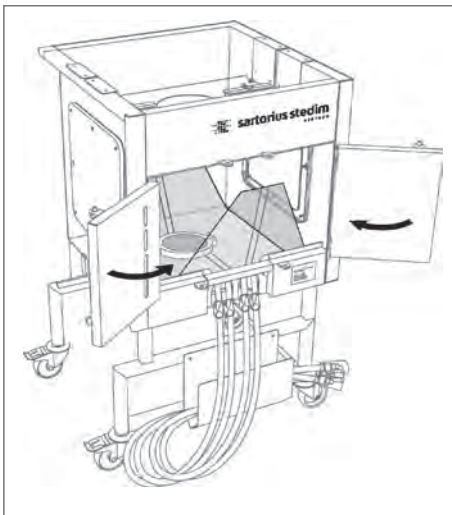

Figure 51
13. Close the hinged front door and secure the locking systems (see Fig. 51). Do not start filling the bag prior to closing the door.